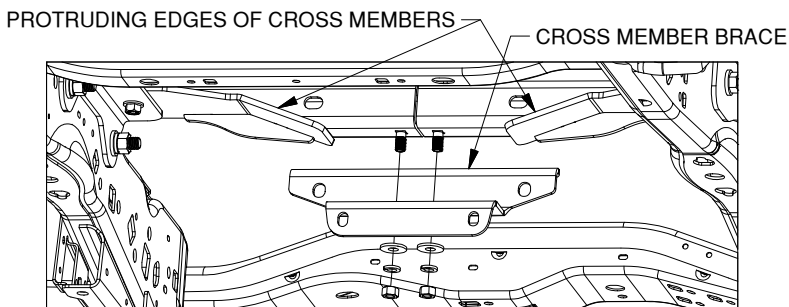

Figure C4: View looking up under the bed.
- Place the cross member brace.** The two front cross members will be joined by a cross member brace. Locate a cross member brace and two 1/2" flat washers, lock washers, and finish nuts. Hold the two front cross members up so that the carriage bolts are in line with each other. Place the cross member brace over two 1/2" carriage bolts, as shown in Figure C4. The brace will need to be moved around the protruding edges of the cross members as the bolts are inserted into the brace. Attach the brace with the 1/2" hardware. Leave the the hardware loose at this time.